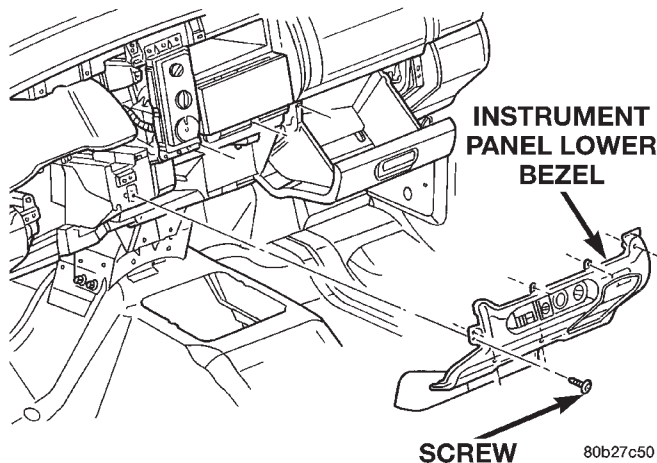

Fig. 18 Instrument Panel Lower Bezel Remove/Install
(1) Disconnect and isolate the battery negative cable.
(2) Remove the cluster bezel from the instrument panel. See Cluster Bezel in the Removal and Installation section of this group for the procedures.
(3) Open the glove box.
(4) Remove the two screws that secure the bottom of the lower bezel to the instrument panel (Fig. 18).